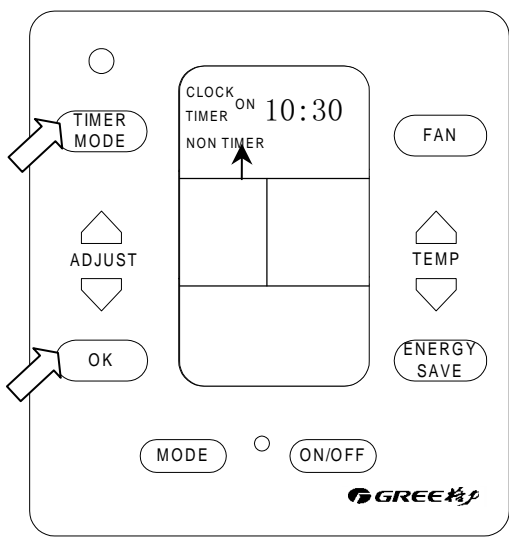

Fig.8: set **NON TIMER**(the LCD doesn't display).
- ▾ display **NON TIMER (TIMER OFF or TIMER ON)** press “**OK**” button to cancel **TIMER OFF** or **TIMER ON**.(Fig.8)